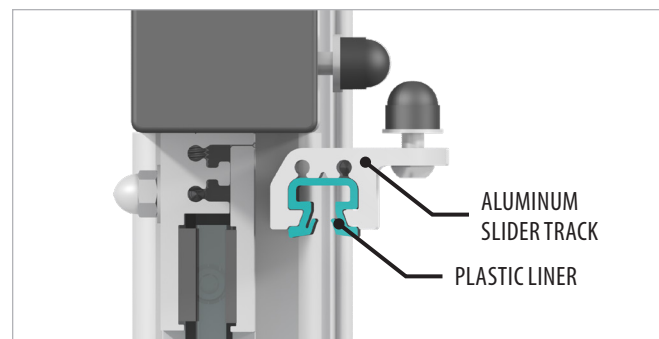

Figure 3 – Plastic liner aligned and nested in aluminum slider track.
1. Insert the plastic liner into the aluminum slider track and push lightly. If aligned properly it should freely slide in as shown in **Figure 3**.